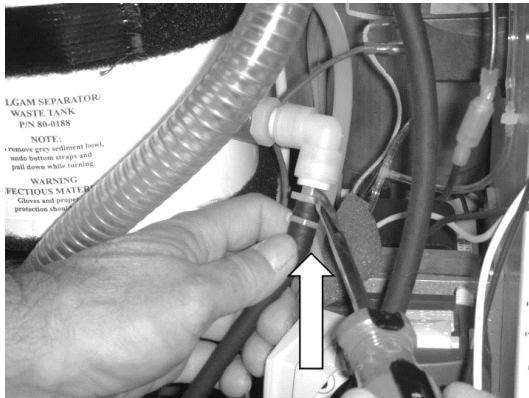

Fig. 5
- 5 Insert the head of a flat head screwdriver between the white plastic adapter and the white plastic connector on the tubing. Depress white ring while pulling down on the tubing. (Fig. 5)